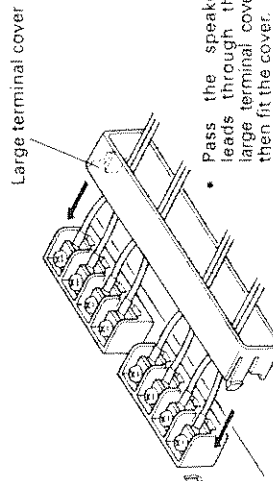

Fig. 2
4. Fit the large terminal cover. (Fig. 2)